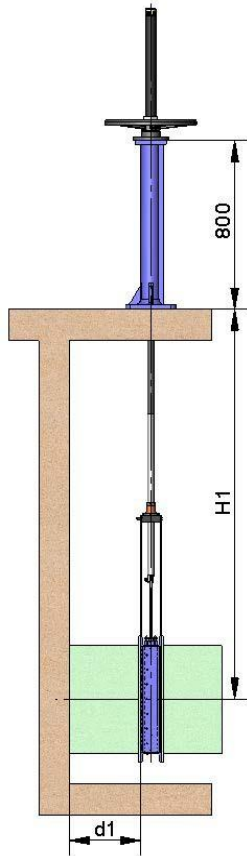

fig. 13
- The standard floor stand is 800 mm high (Fig. 13). Other floor stand measurements available on request.